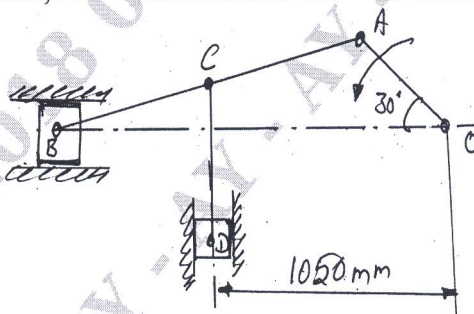

Fig Q3
- 3 In the mechanism show in Fig Q3 the crank OA rotates at 20 rpm anti clockwise and gives motion to the sliding blocks B and D. The dimensions of the various links are OA = 300mm, AB = 1200mm, BC = 450mm and CD = 450mm.